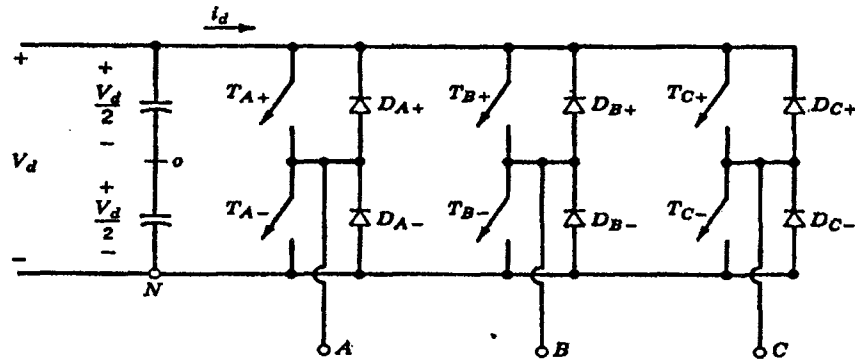

Figure 4 Three-phase inverter.
5. (a) A three-phase square wave inverter shown in Figure 4 is connected to a balanced resistive load at the output terminals. The load neutral point is 'n'.